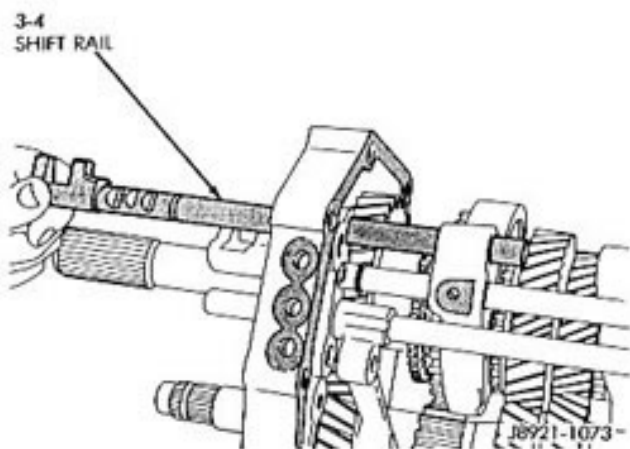

Fig. 44 Removing 3-4 Shift Rail
(4) Remove the 3-4 shift rail from the shift fork and intermediate plate (Fig. 44).